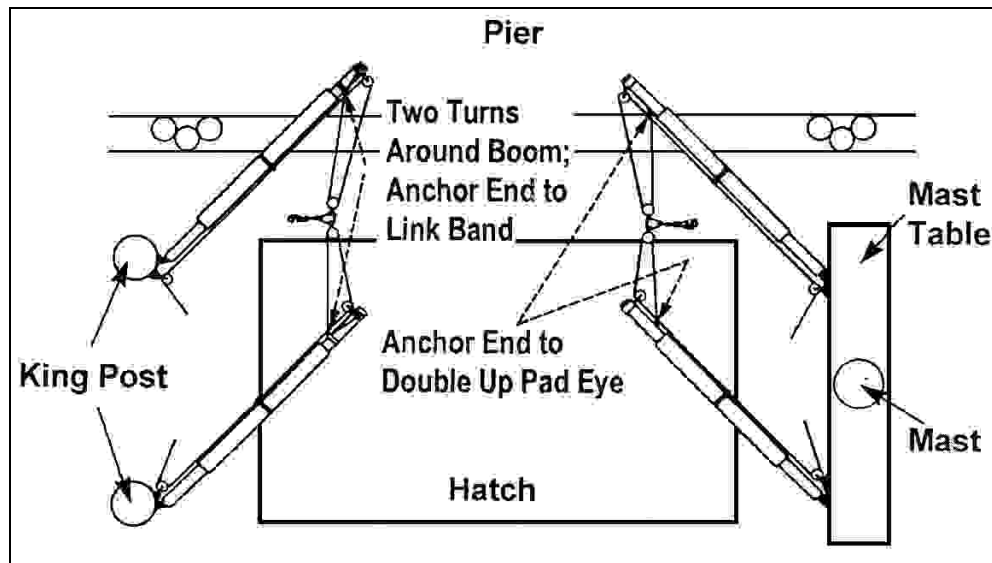

Figure 3-110. Rigging a Yard-and-Stay With a Double Purchase
1. Perform the procedures required to rig a yard-and-stay with a double purchase (see Figure 3-110).